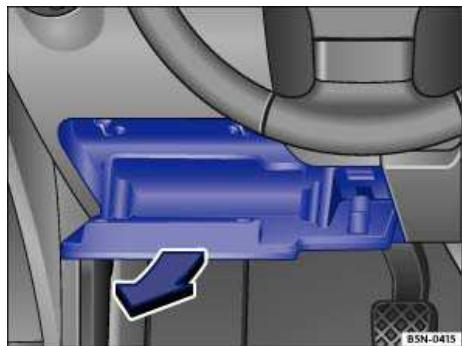

Fig. 200 On the driver side in the instrument panel: Fuse box cover.
- Open storage compartment and pull back firmly in the direction of the arrow =>fig. 200.